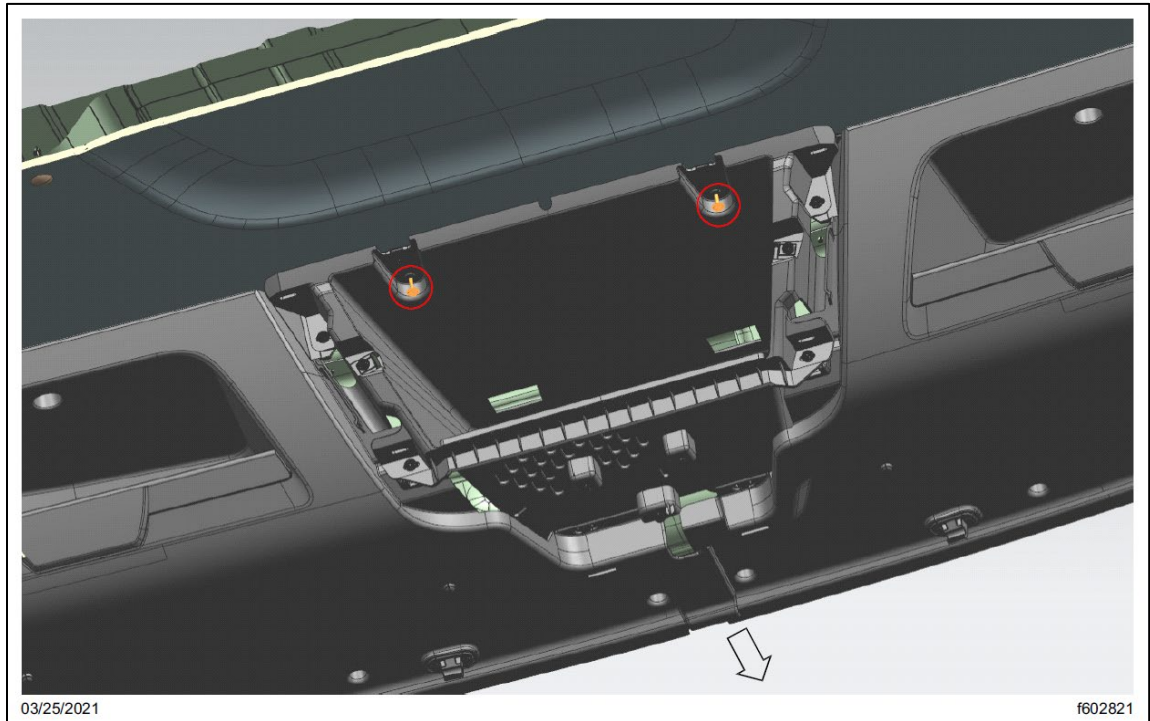

Fig. 28, Attach the Center Overhead Storage to the Cab Roof
- 7.3. Install the two fasteners that attach the center overhead storage bin to the cab roof as shown in Fig. 28. Tighten the fasteners 5 to 7 lbf.ft (6 to 9 N.m).